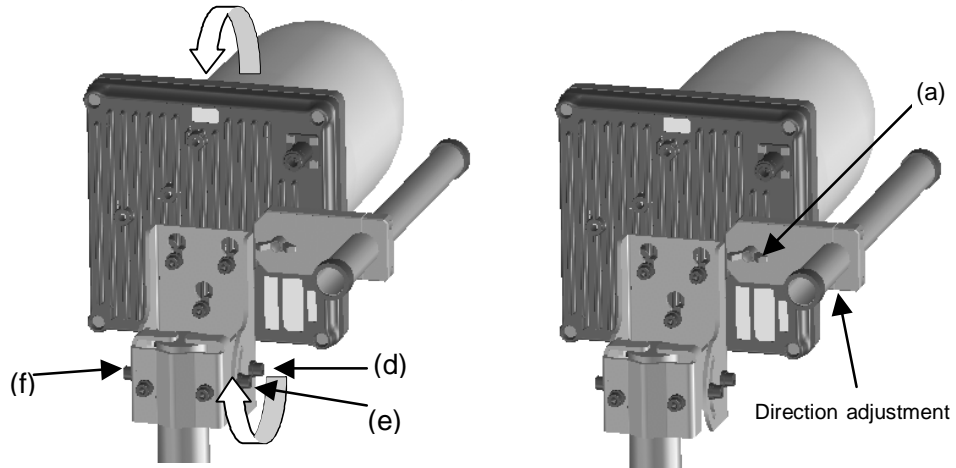

Figure 5-16 Adjusting the Vertical Direction
- As shown in Figure 5-16, loosen the hexagonal socket head bolts (d), (e), and (f) securing the mounting bracket, and tilt the antenna up or down to adjust the vertical direction.